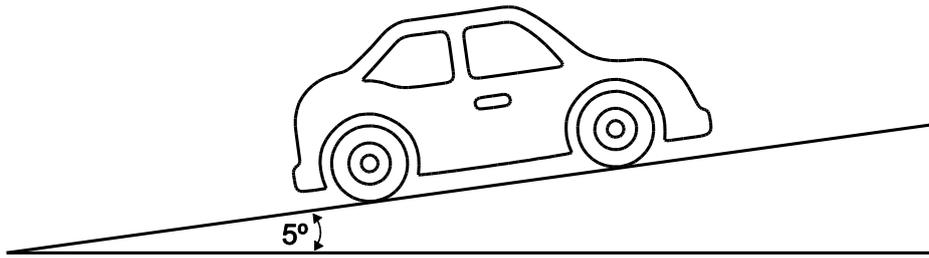

Fig. 3
- 2 Fig. 3 shows a car of mass 1200 kg travelling up a rough hill inclined at a constant angle of 5° . The engine produces a driving force P N in the direction of motion.